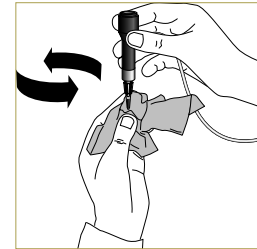

Figure D-6: Triple beep—carefully wipe the pipette tip
7. **Triple Beep**—After the VetTest analyzer beeps three times, a small quantity of air will be drawn into the very end of the pipette tip. Carefully wipe the pipette tip (especially the end of the tip) with a twisting motion using a clean, disposable lint-free tissue (Figure D-6).